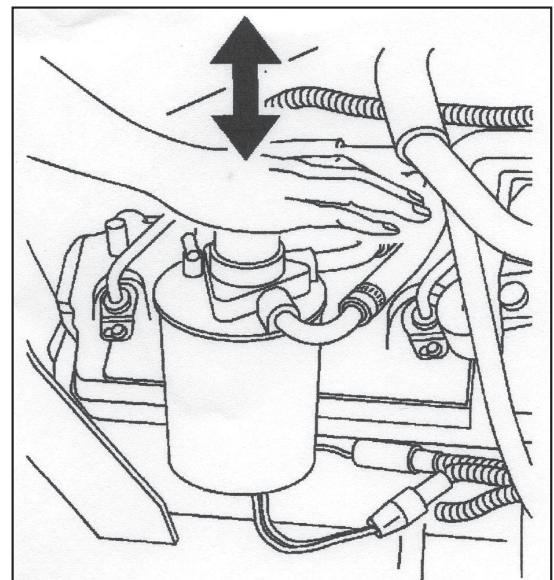

FIG. 2
- 2) Depress and release the priming pump until a small amount of fuel seeps from the vent valve. Allow the priming pump to fully return to its upright position between pump strokes (see Fig. 2). When fuel seeps from the vent valve, the system is primed.